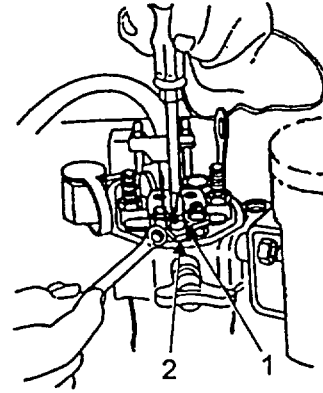

FIGURE 5-32. DECOMPRESSION ADJUSTMENT
Adjustment of the decompression screw (Figure 5-32, Item 3) is required if the engine does not decompress when the decompression lever is in position.
c. Using box wrench loosen nut (Figure 5-32, Item 2) and turn adjustment screw (1) clockwise until rocker touches valve stem.
d. Turn adjustment screw (1) another half turn and secure by tightening nut (2).